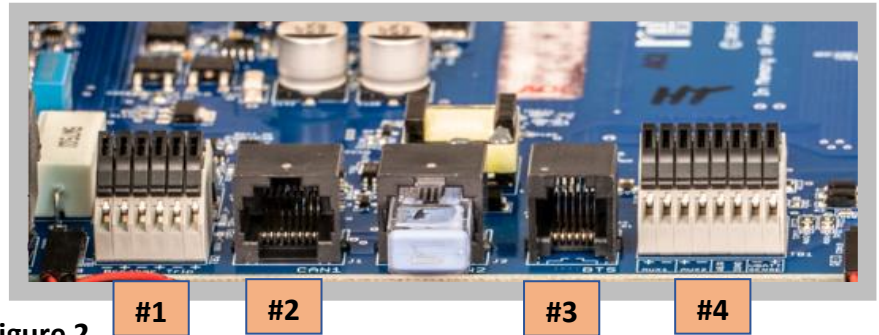

Figure 2
BARCELONA CONNECTIONS (Figures 2, 3, & 4)
1. Connect the phone jack of the BTS into the BTS receptacle on the Barcelona control board, as marked by #3 in **Figure 2**.
1. Connect the WBJr’s purple wire to the terminal block, #4, as shown in **Figure 2**.